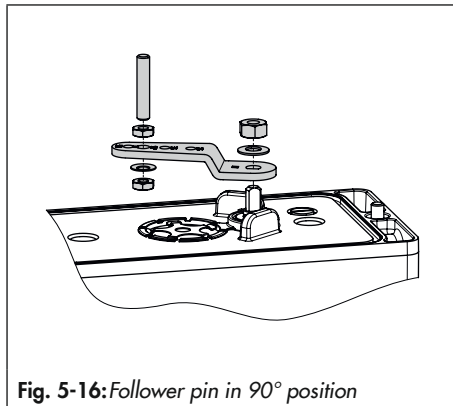

Fig. 5-16: Follower pin in 90° position
5. Insert and fasten the follower pin in the 90° position on the positioner's lever (see Fig. 5-16). Only use the longer follower pin included in the mounting kit.
6. Align the positioner on the adapter bracket (1) in such a way that the follower pin engages into the actuator's follower wheel (3).
7. Fasten the positioner onto the adapter bracket (4) using the fastening screws (6).
2. Fasten the adapter block (1) to the actuator's NAMUR interface using the four fastening screws (2). Make sure the seals are correctly seated.
3. Mount the follower wheel (3) onto the actuator shaft. Use the matching adapter (see Table 5-9 on page 5-52).
4. Place the adapter bracket (4) onto the adapter block (1) and fasten it using the fastening screws (5). Make sure the seals are correctly seated.
5. Insert and fasten the follower pin into the 90° position on the positioner's lever (see Fig. 5-16 on page 5-20).
8. Mount the Type 3710 Reversing Amplifier (7) together with the two guide bushings (8) and terminal plate (9) onto the adapter bracket using the associated fastening screws (10). Make sure the seals are correctly seated.